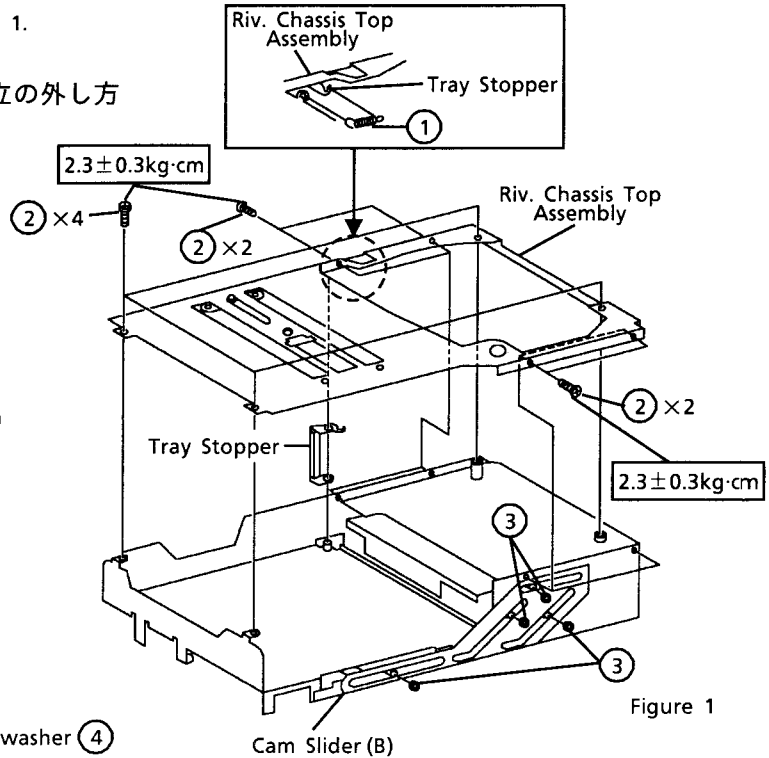

Figure 1
- (1) Remove the spring ① as shown in Figure 1.
- (2) Remove the screw ② as shown in Figure 1.
- (1) Remove the four washers ③ as shown in Figure 1.